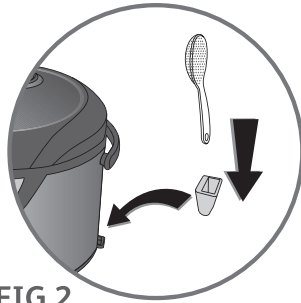

FIG.2
- Install the spoon support: insert the plastic hook of the support in the hole located at the base of the product, and slide it downwards – **Fig.2**.